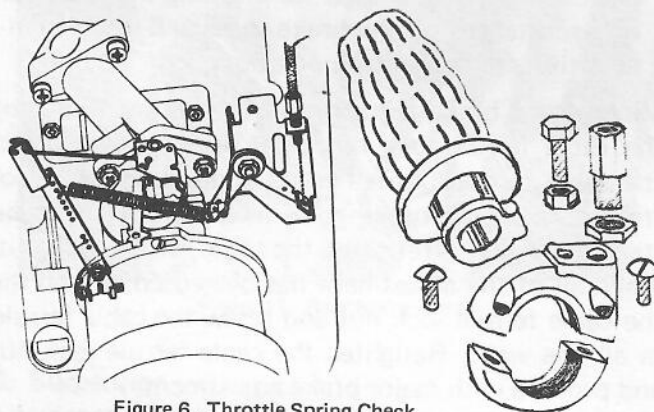

Figure 6. Throttle Spring Check
STEP 1 Remove the 2 screws in the adaptor ring, remove entire throttle control and apply oil to the end of the handlebar and all pivot points on the twist grip assembly, as shown in figure 6.